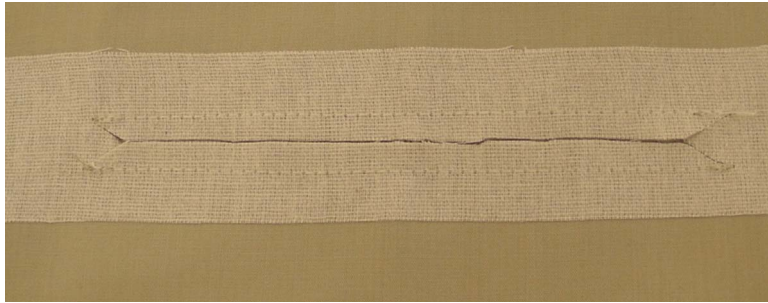

Figure 29
4. Using scissors, cut along the chalk line between the jets and mitre into the corners. Take care not to cut into the jets at this stage (see Figure 29).